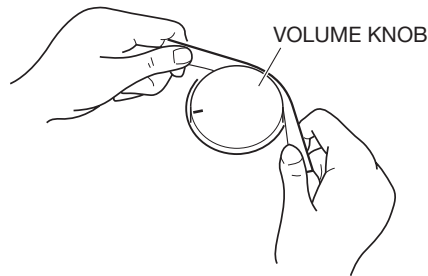

Fig.5
1. Remove the volume knob from the control panel surface. (Fig.1 and Fig.5)